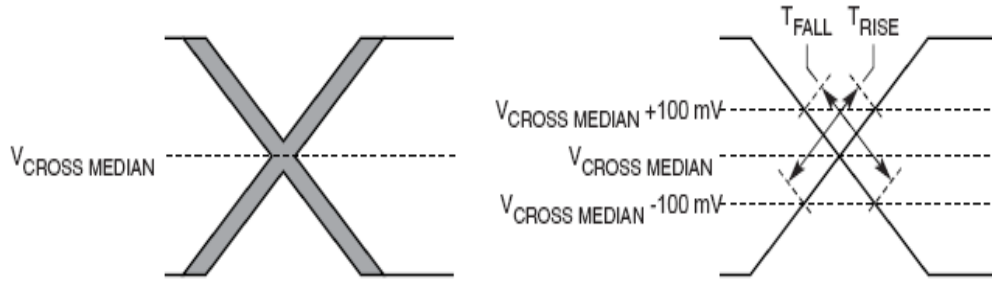

Figure 48. Single-Ended Measurement Points for Rise and Fall Time Matching
- Matching applies to rising edge for $\text{SD}_n_{\text{REF_CLK}}$ and falling edge rate for $\overline{\text{SD}}_n_{\text{REF_CLK}}$. It is measured using a 200 mV window centered on the median cross point where $\text{SD}_n_{\text{REF_CLK}}$ rising meets $\overline{\text{SD}}_n_{\text{REF_CLK}}$ falling. The median cross point is used to calculate the voltage thresholds that the oscilloscope uses for the edge rate calculations. The rise edge rate of $\text{SD}_n_{\text{REF_CLK}}$ should be compared to the fall edge rate of $\overline{\text{SD}}_n_{\text{REF_CLK}}$, the maximum allowed difference should not exceed 20% of the slowest edge rate. See Figure 48.